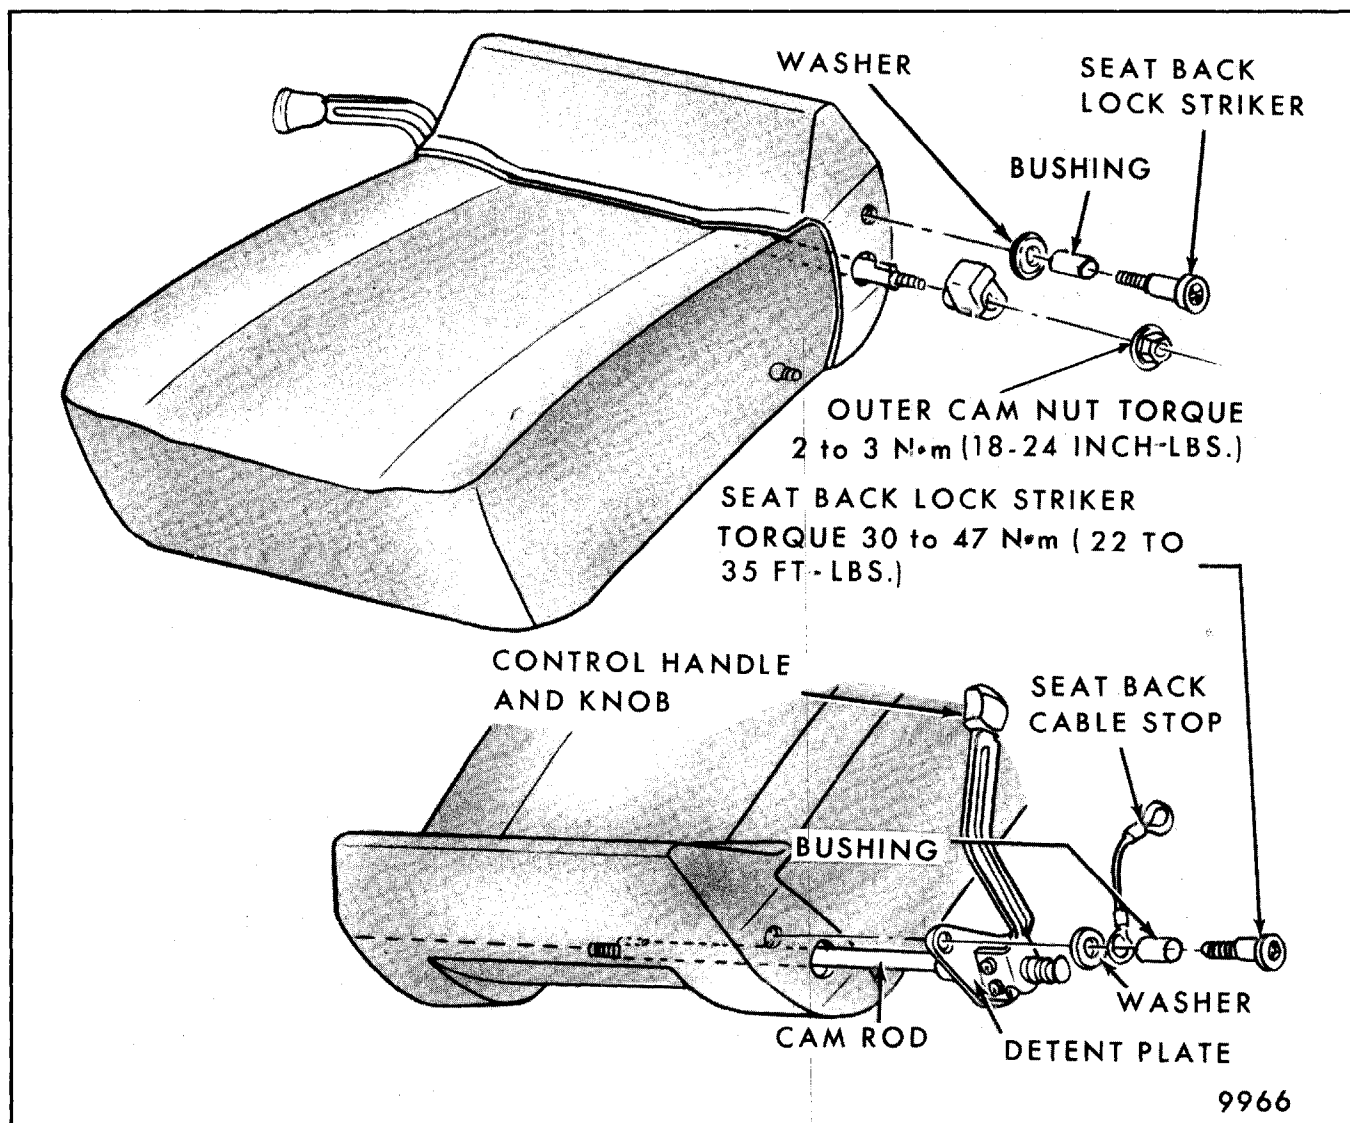

Fig. 9-81-Adjustable Front Seat Back Assembly - Chevrolet F and H Styles
Removal and Installation - Handle, Cams, Cam Rod, Detent Plate and Spring (Fig. 9-81)
1. At right side of seat, remove handle screws (Fig. 9-81) and remove handle.